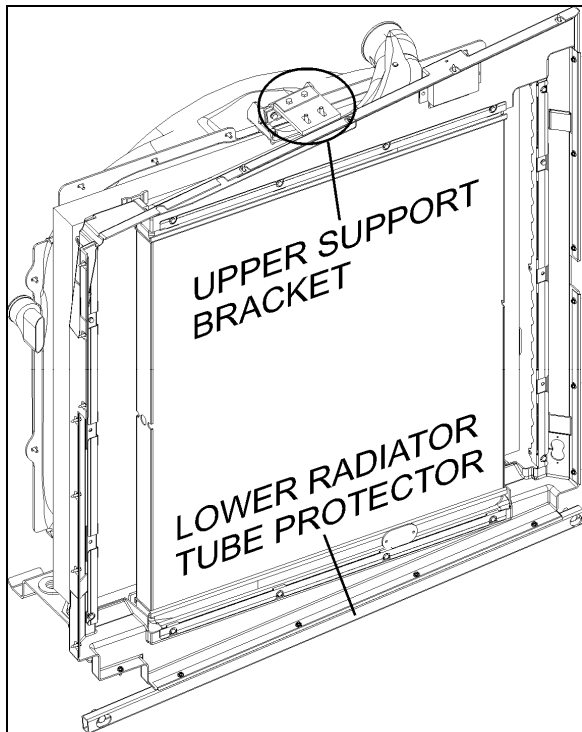

FIGURE 15: UPPER SUPPORT BRACKET & TUBE PROTECTOR
- Remove the upper radiator assembly support bracket (Fig. 15).
- Remove the lower radiator assembly tube protector from the lower section (Fig. 15).